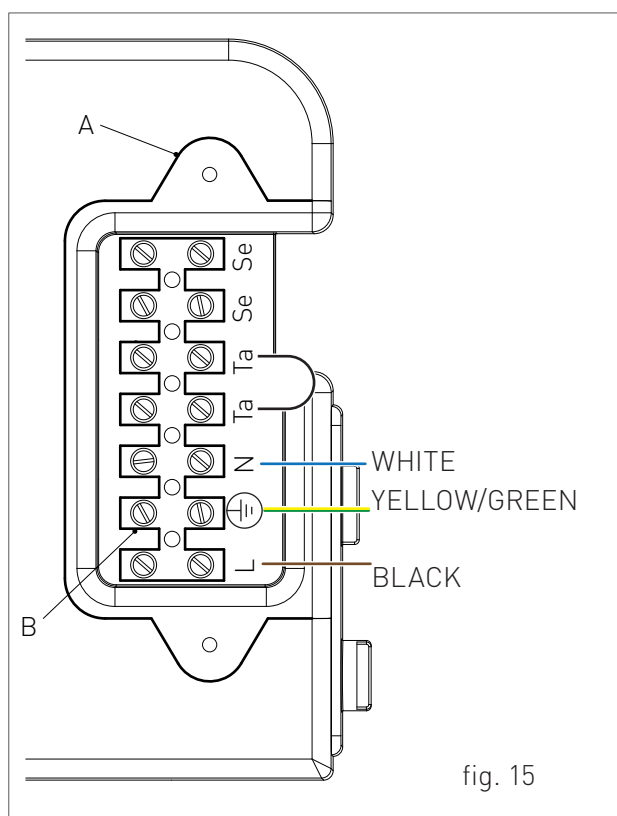

fig. 15
- › loosen the two screws and remove the plate "A" (see fig. 15).
- › after removing the plate, connect the electrical cables to terminal "B" (see fig. 15):